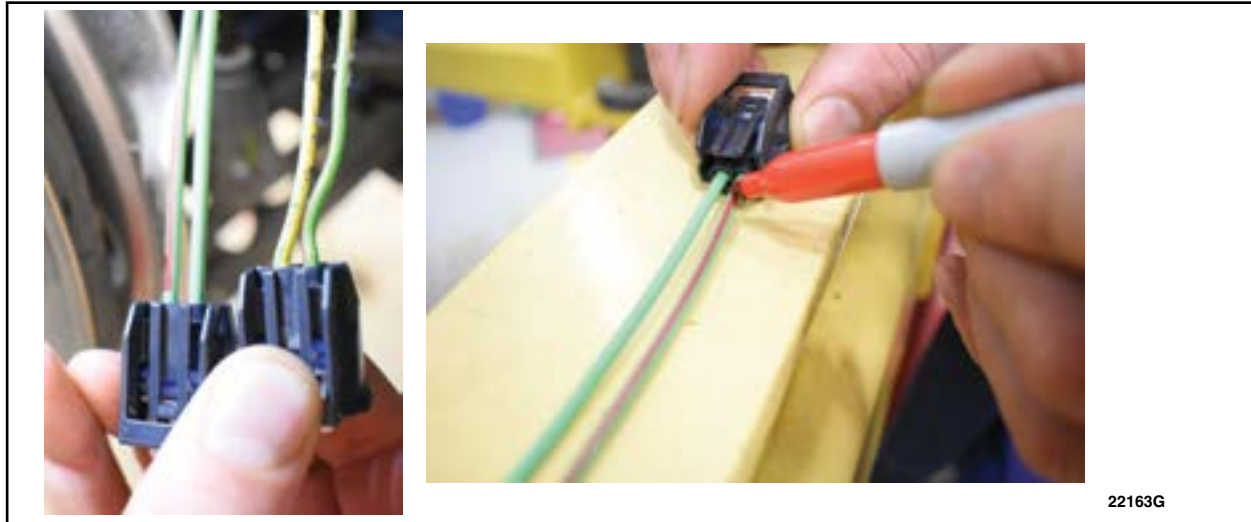

FIGURE 7
10. Position connectors in the same orientation. Mark the left hand (LH) wire using a marker. This marked wire will go in the position of the corresponding wire on the LH side. See Figure 7.